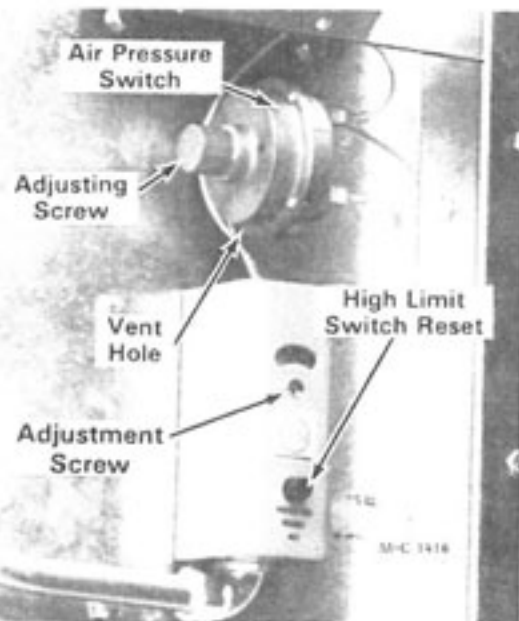

Figure 6 - Adjustable High Limit Switch
1. Set all of the adjustable high limit switches approximately 50°F above the desired burner operating temperature, see Figure 6, and the "Suggested Burner Operating Temperature Setting Chart."